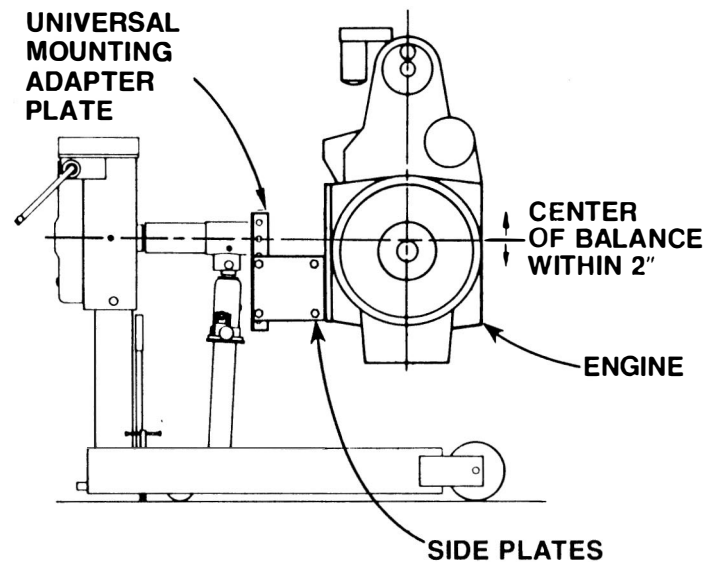

FIGURE 1
2. Find the engine's center of balance (or greatest concentration of weight). **NOTE: This is usually about two inches above the center of the crankshaft.** See Figure 1.